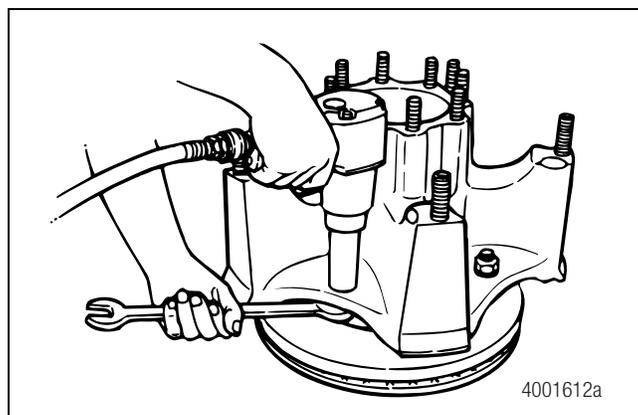

Figure 8.14
9. Remove any nuts, bolts and washers. Separate the disc from the wheel or hub. Figure 8.14.